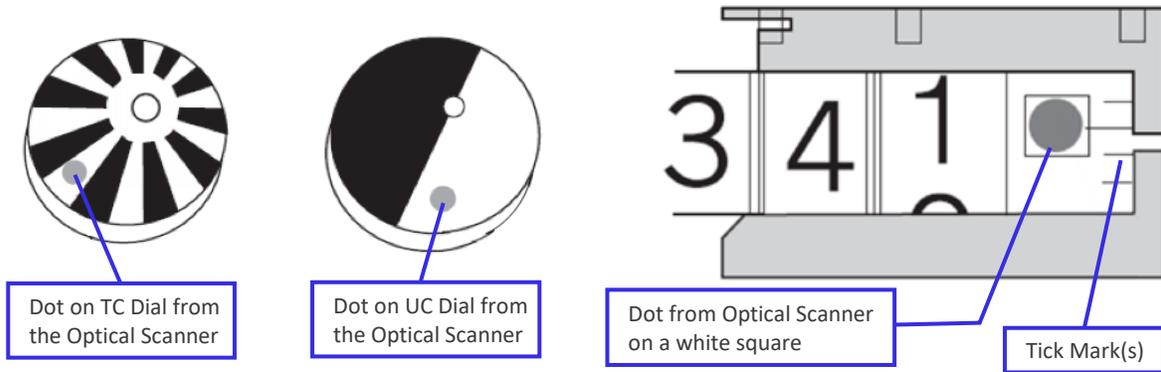

Figure 17: Optical Scanner test dials
- a. Align the Optical Scanner as indicated in Table 4 and hand tighten. For illustrations of the test wheel and dials, refer to Figure 17 and Figure 18.